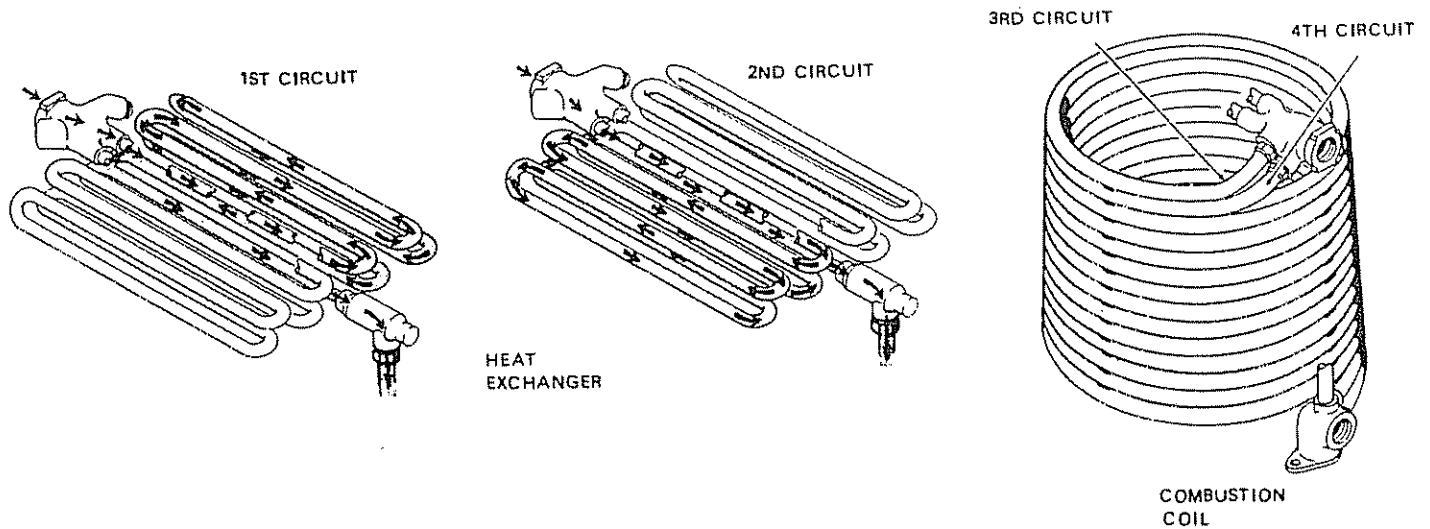

FIGURE 3. FOUR CIRCUIT WATER FLOW
The water flow through these heaters is divided into two or four circuits, fig. 3. To effectively clean each water circuit, delimer must be directed through each passage individually.
4. Delime third and fourth circuits, positioning stoppers as shown in fig's. 8 and 9. Only units of 300,000 Btuh input or higher will have four circuits as shown in fig. 3.